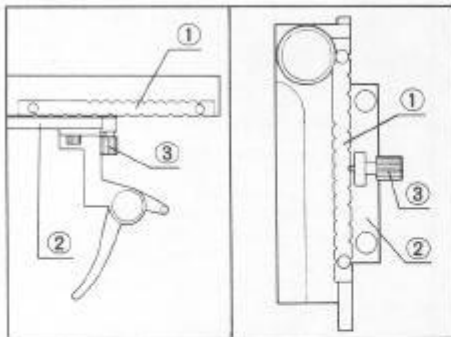

Fig. 22
This mechanical stage attachment permits the use of the click-stop plates for 96-well micro titre plates and the 24-well micro titre plate of other chambers in any click position for each well, as desired. Install the click-stop plate ①. (Fig. 22)